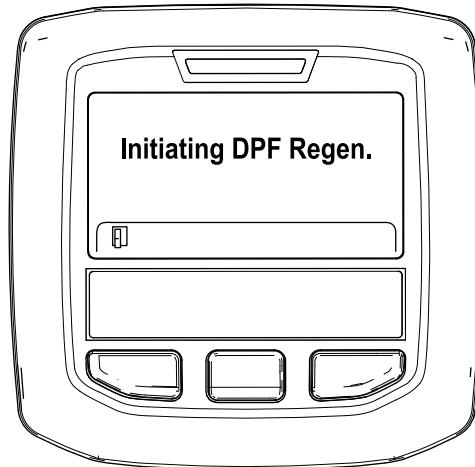

Figure 37
A. The “Initiating DPF Regen.” message displays (Figure 37).